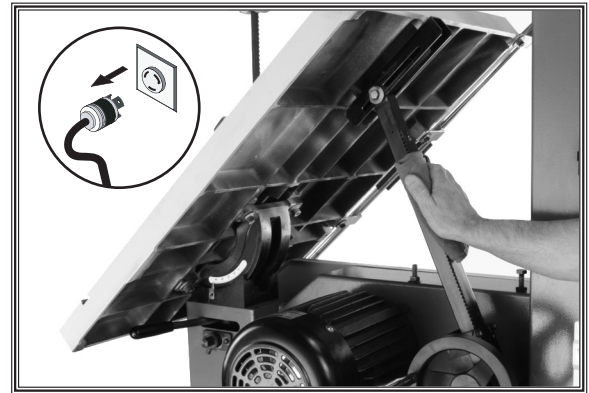

Figure 65. Table tilt rack and pinion assembly.
3. Move the table up to its maximum 45° angle and wipe (**Figure 65**) off all existing grease and sawdust buildup from the rack.